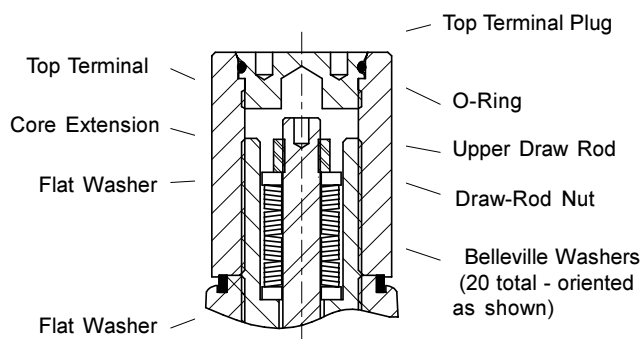
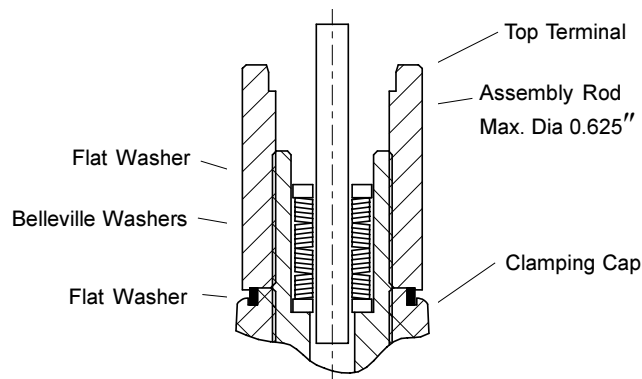

Figure 5: Belleville Washer Assembly
Figure 6: Assembly of Belleville Washers using a Rod.
2. Rearrange/assemble the Belleville and flat washers as shown in Figure 5. The assembly of the washers can be simplified by inserting a 0.625 inch Dia. (Max.), 2 foot long rod into the top terminal/core extension and assembling the washers over the rod while holding the rod in place as shown in Figure 6. After all the washers are in place, remove the rod.